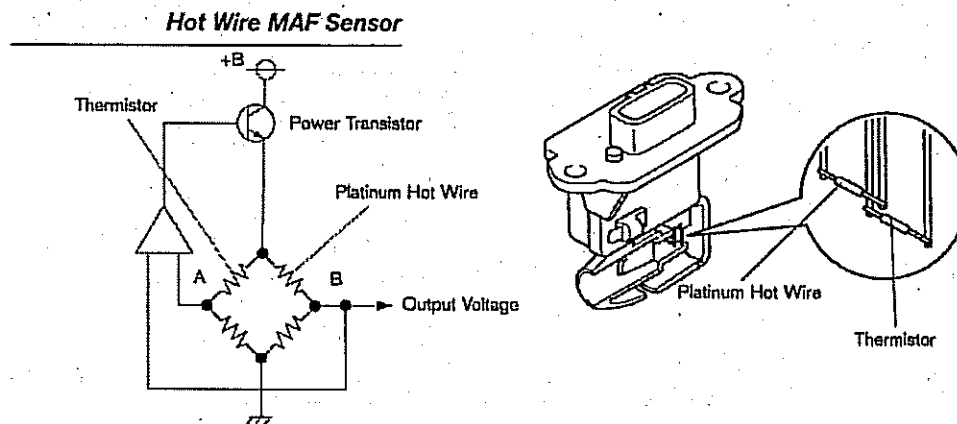

Figure Q4-1
- Explain in detail the construction and operation of Hot Wire Mass Air Flow sensor shown in Figure Q4-1?